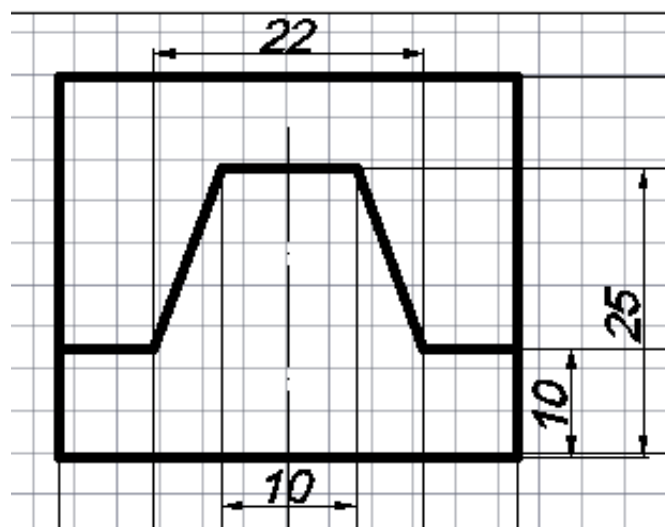

Figure 5.3 – Drawing the main view
5.2.4 Next, go back to layer "0". In the zero layer, you need to change the thickness of the main lines from "Default" to 0.5 mm. and draw the left half of the main view using the Line or Polyline tool. Let's pay attention to the isometry of the part for sizing. Then, with the help of the "Mirror reflection" tool, complete the entire frontal view of the part (figure 5.3).